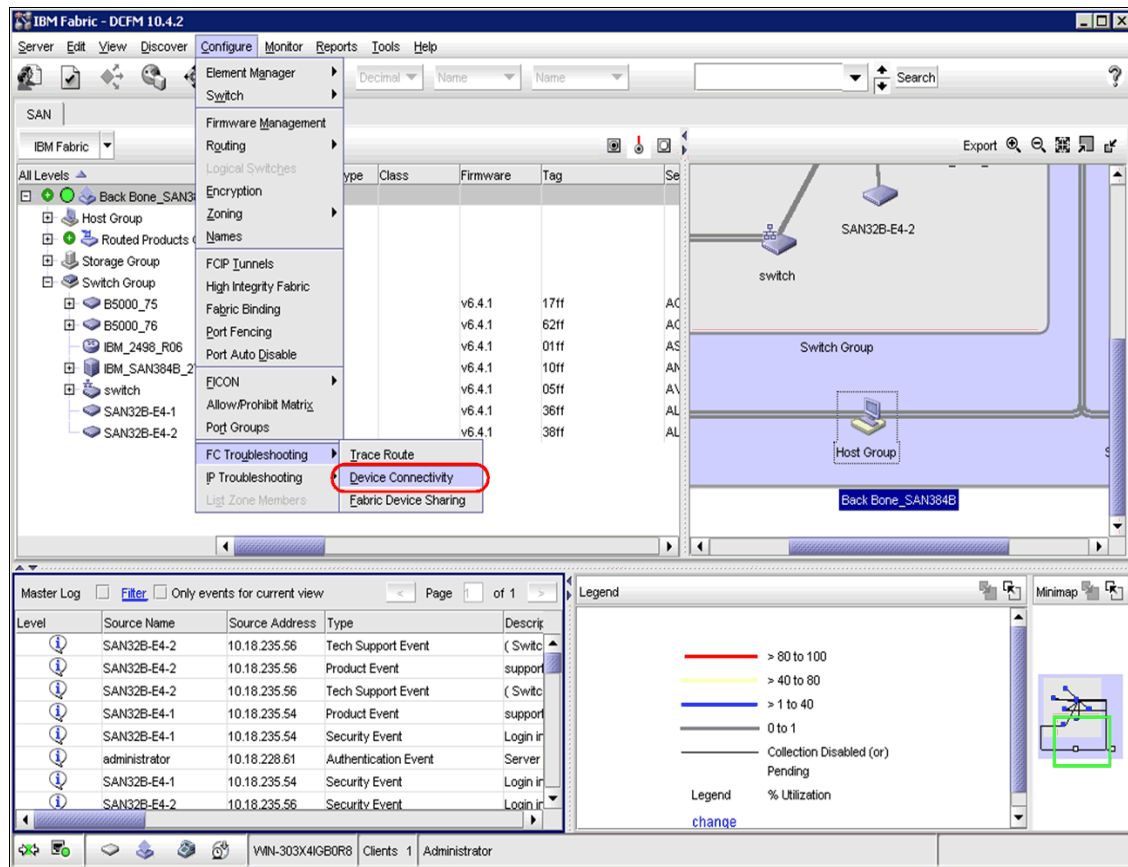

Figure 17-29 Selecting Device Connectivity
1. Select **Configure** → **FC Troubleshooting** → **Device Connectivity**. The Device Connectivity Troubleshooting dialog box displays as shown in Figure 17-29.